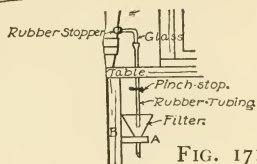
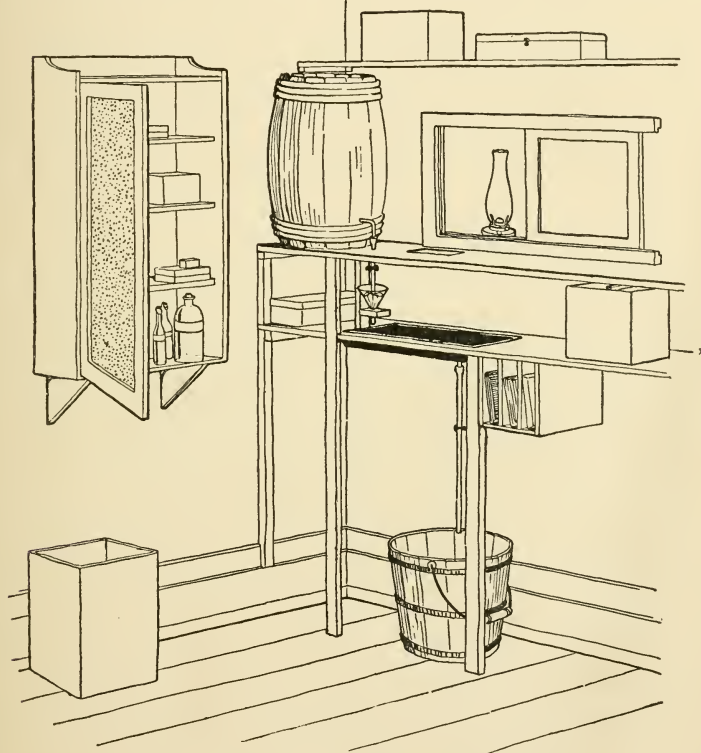

FIG. 171.
FIG. 169. — A Well-equipped Dark-room.
Figure 169 shows
in the sketch (Fig. 169). Fasten a shelf to the wall about nine inches below the table, and under this make a rack with three divisions in it for trays. The rack should be fastened to the braces, as shown in the drawing.
**A Water-tank** with hose attachment. This is shown in Fig. 169. To carry it out, procure from your grocer a "half-barrel," such as is used for the shipment of salt mackerel, etc., and, after thoroughly cleaning it, bore a hole in the side about two inches from the bottom. Buy at a drug-store several feet of rubber tubing, a rubber stopper with a hole cut in the centre, two pinch-stops, a six-inch piece of glass tubing bent at right angles, and a small glass funnel. Slip one end of the bent piece of glass tubing into the rubber stopper, and stick the latter in the hole made in the barrel. Then slip a short piece of the rubber tubing over the glass tubing, and place one of the pinch-stops on it to be used in regulating the supply of water from the tank (see Fig. 171). Set the barrel on one end of the table, and run the rubber tubing through a hole cut for it in the work-table.
arrangement similar to that shown in Fig. 171 should be fastened below the work-table. It consists of a glass funnel set in a hole bored in a block of wood (see *A* in Fig. 171), which is suspended from the bottom of the work-table by means of a stick (*B*), one end of which is nailed to block *A* and the other end to the work-table. Keep a piece of filter-paper in the funnel. The rubber tubing should be cut just long enough to reach the funnel, and the bottom of this filter should come within an inch or two of the sink, which will be set in the shelf below.
**A Sink** as can be had, considering that one twelve by seventeen inches will cost you just fifty cents—twenty-five cents for the pan and an equal amount to pay a tinsmith for soldering a three-eighths inch pipe in a hole cut in the bottom for a drain. Either fasten the sink on the shelf, boring a hole for the pipe to fit in, or set it in an opening cut in the shelf, as shown in the drawing, supporting it by the rim around its top. Slip a piece of rubber tubing over the lower end of the drain pipe and to this attach the second pinch-stop as a regulator for emptying the sink (see Fig. 169).
Chapter I, or the curio-cabinet in Chapter V. This makes it possible to keep everything in order and in places where they can easily be reached. Such a cabinet is shown on the wall in Fig. 169.
**Ruby-light** is shown in Fig. 169. This is practicable, however, only when you build the dark-room itself and can cut a window in the partition. It makes it possible to have your source of light outside of the room, and does away with the heat caused by having a lamp within, where you are working.